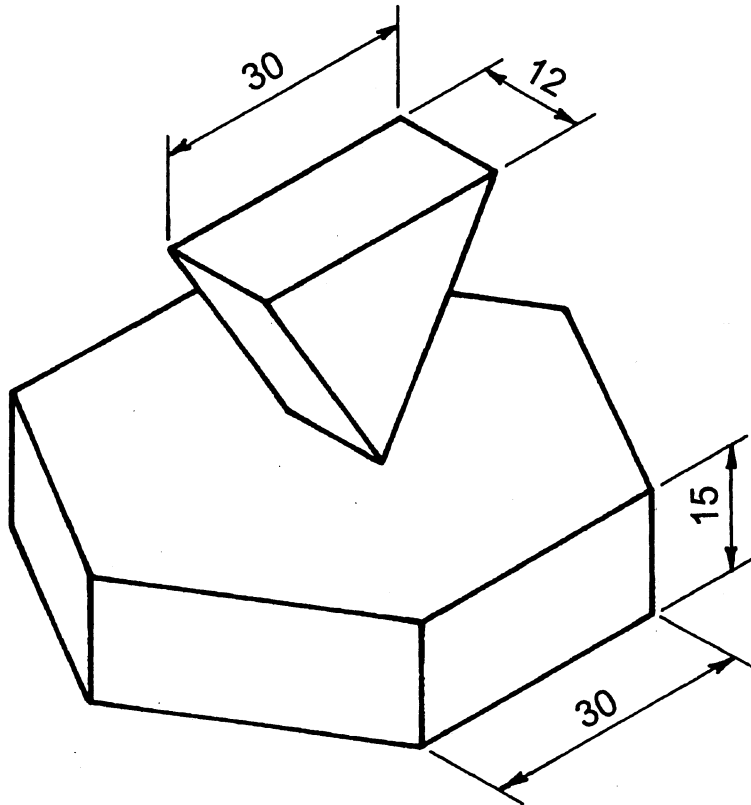

FIG. 1	PAPER WEIGHT PAPIERGEWIG
**Figure 1** on page 5 of this examination paper shows an isometric view of a **paperweight**. The triangular prism is placed in the middle of the hexagonal prism.